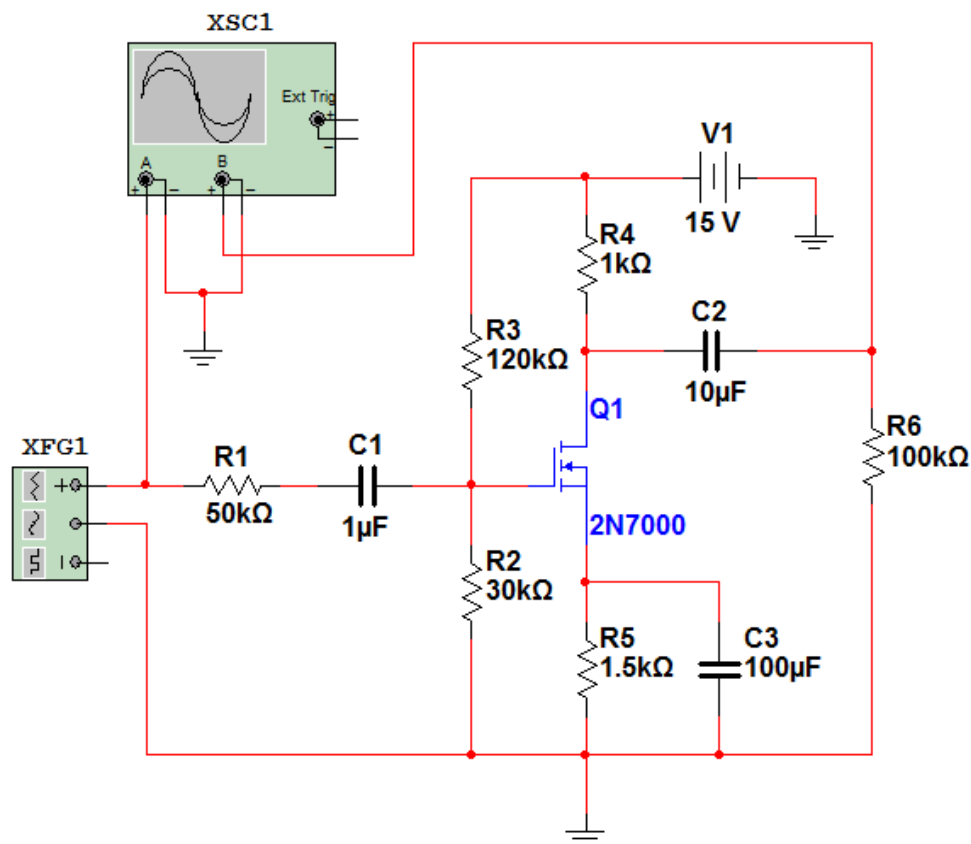

Figure 12.1
1. Build the circuit as shown in Figure 12.1 and amplify a sinusoidal signal with $V_p = 100\text{mV}$ for the given frequency range (See table 12.1) using MOSFET (2N7000). In lab use the smallest amplitude that your function generator will output.